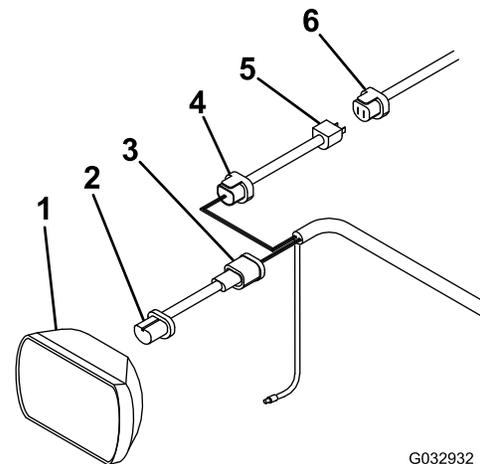

Figure 22
1. Disconnect the wire harness plug from the back of the left vehicle headlight (Figure 22).
2. Connect the headlight adapter to the back of the left vehicle headlight (Figure 22).
3. Connect the black plug from the headlight adapter to the long wire harness (Figure 22).
4. Connect the blue plug from the headlight adapter to the blue plug on the long wire harness (Figure 22).
5. Connect the free end of the headlight adapter to the previously disconnected plug on the vehicle wire harness (Figure 22).